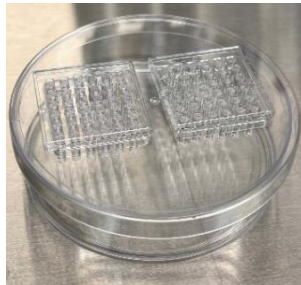

Figure 1. Hydration of the pillar plate surface in a 90 x 15 mm petri dish with 500 µL of sterile, distilled water to minimize air bubble entrapment.
6. Hydrate the surface of the pillar plate by inserting two 36PillarPlates in the 36PetriLid on a 90 x 15 mm petri dish containing 500 µL of sterile, distilled water and placing it in a 5% CO₂ incubator at 37°C for 20 - 30 minutes (**Fig. 1**).